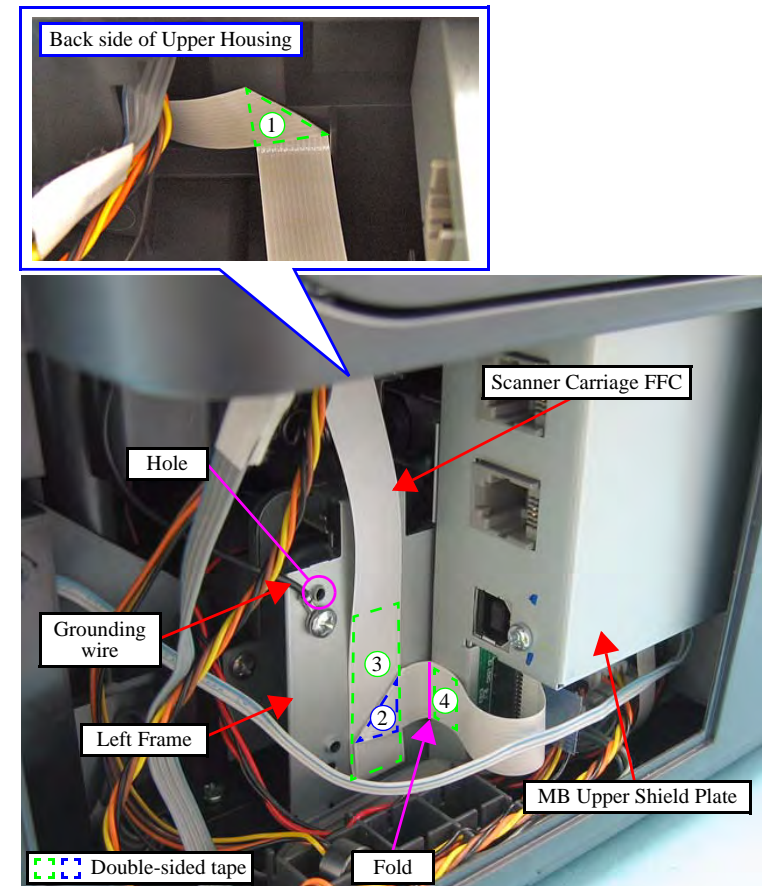

Figure 4-8. Routing the cables and FFC
- When installing the grounding wire, make sure to route it not to cover the hole of the Left Frame as shown in Figure. 4-8.
■ When routing the Scanner Carriage FFC, follow the steps below while referring to the Figure. 4-8.
1. Secure the FFC on the back side of the Upper Housing with the double-sided tape (1).
2. Fold and secure the FFC with the double-sided tape (2) as shown in the figure, and route it vertically on the Left Frame, then secure it with the double-sided tape (3).
3. Align the fold of the FFC to the left edge of the MB Upper Shield Plate, and secure the FFC with the double-sided tape (4).